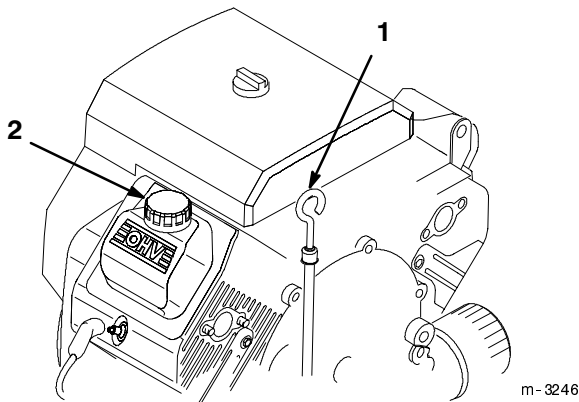

Figure 4
3. Clean around the oil dipstick (Fig. 4) so dirt cannot fall into the dipstick tube and damage the engine.
5. Slide the oil dipstick fully into the dipstick tube (Fig. 4). Pull the dipstick out and look at the metal end. If the oil level is low, add oil; refer to Engine Oil, page 28.